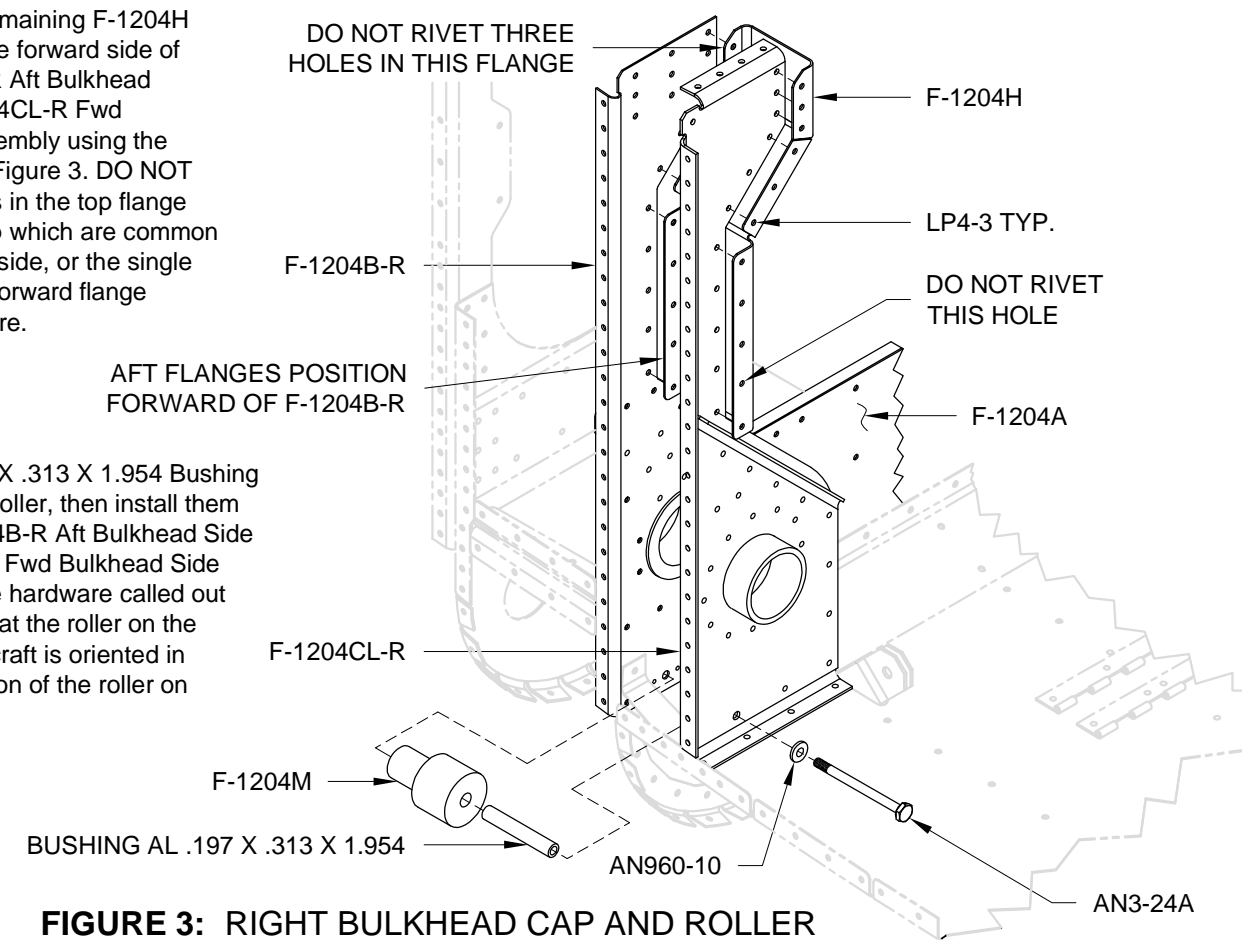

FIGURE 3: RIGHT BULKHEAD CAP AND ROLLER
Step 4: Rivet the remaining F-1204H Bulkhead Cap to the forward side of both the F-1204B-R Aft Bulkhead Side and the F-1204CL-R Fwd Bulkhead Side Assembly using the rivets called out in Figure 3. DO NOT rivet the three holes in the top flange of the bulkhead cap which are common to the aft bulkhead side, or the single hole in the bottom forward flange indicated in the figure.
Step 5: Slide the BUSHING AL .197 X .313 X 1.954 Bushing into the F-1204M Roller, then install them between the F-1204B-R Aft Bulkhead Side and the F-1204C-R Fwd Bulkhead Side Assembly using the hardware called out in Figure 3. Note that the roller on the right side of the aircraft is oriented in the opposite direction of the roller on the left side.